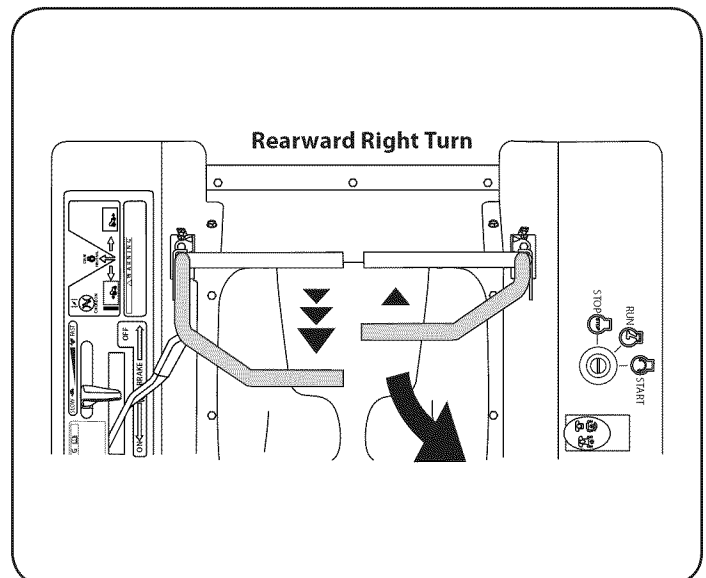

Figure 20
2. To turn to the right while traveling in reverse, move the right drive control lever forward of the left lever. See Figure 20.